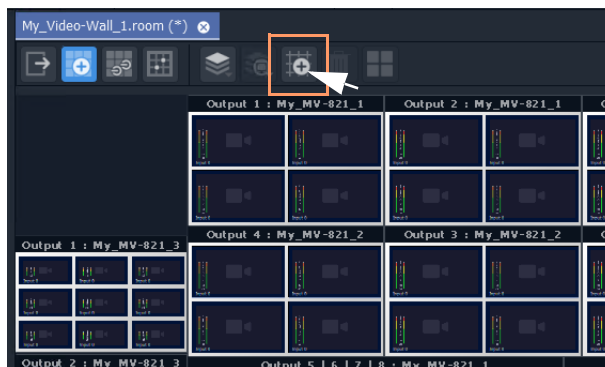

Fig. 14-37: Freehand Positioning Icon
- 1 Click on the **Freehand Positioning** icon (see Figure 14-37).